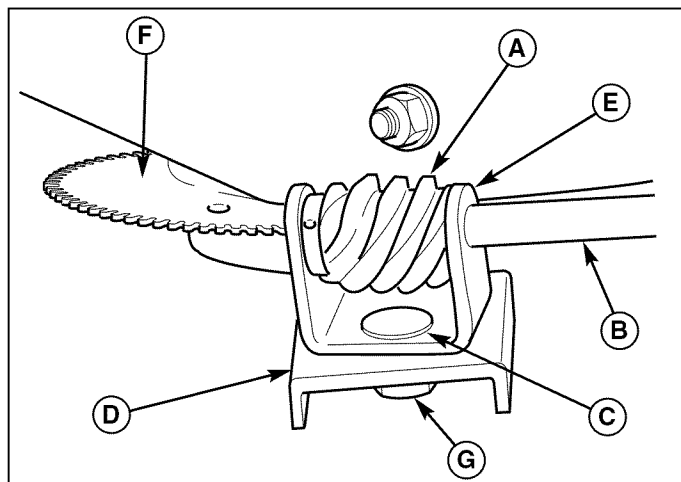

Figure 22. Discharge Control
2. To adjust, loosen nut (D, Figure 22) by holding the adjusting flats (A) and turning nut (D). Turn adjustment flats and hold screw. The adjustment screw is a phillips screw and the head can be held or turned by inserting a screwdriver through the spring.
3. Hold adjusting flats (A) and tighten nut (D).
If the discharge chute is difficult to operate, first lubricate the pinion gear (A, Figure 22) and ring gear (F). If it is still difficult to operate, adjust as follows:
1. Loosen the nut (G, Figure 22) which holds the pinion gear bracket in the slotted hole.